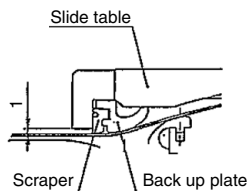

Fig. 3
- The dust seal bands of both sides inserted in the head cover to the position drawn with a pen (fig. 3). Then, at the same time, insert the dust seal band in the groove of cylinder tube by pulling it to both sides. (fig. 4)